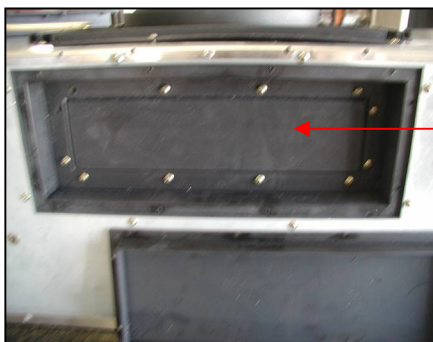

Figure 23
- Remove the screws on the vent cover (rear) and cut along the line of the inner vent cover (rear) opening. Refer to Figure 23.